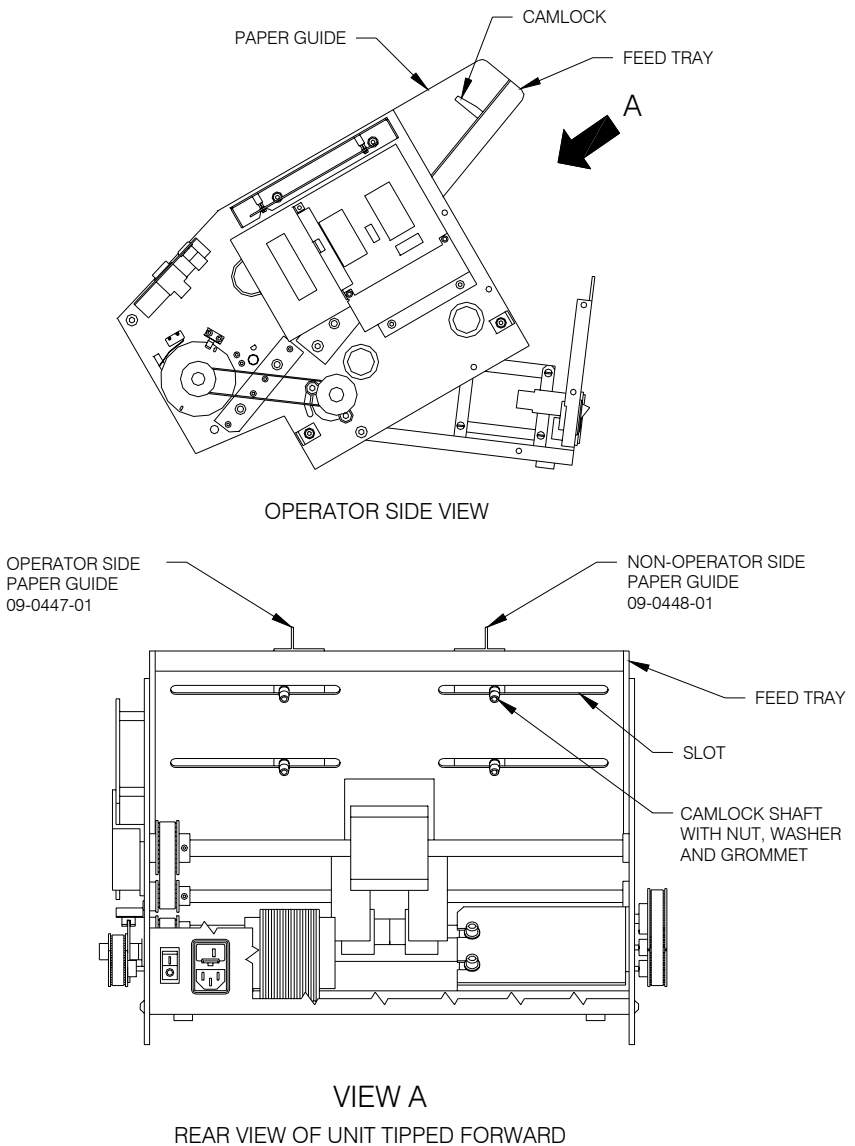

Figure 7.18 -- Replacing Paper Guides
2. Lift each CAMLOCK. (Refer to **Figure 7.18.**)
4. Pull the PAPER GUIDES out of the FEED TRAY. (Refer to **Figure 7.18.**)